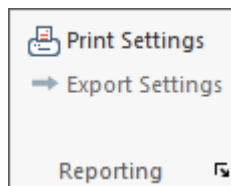

Figure 10.6-8
- **Tag base reinforcement.** This option allows you to easily distinguish between base and calculated rebar on the rebar plan. Once checked the program marks all base rebar with label “BR” (see **Fig. 10.6-8**)
The text of the bar normally appears below its line. However, you can pick the cross (shown in **Fig. 10.6-8** over the numeral “6”) and move it to the location of your choice. The ability to move the text helps to alleviate congested displays.